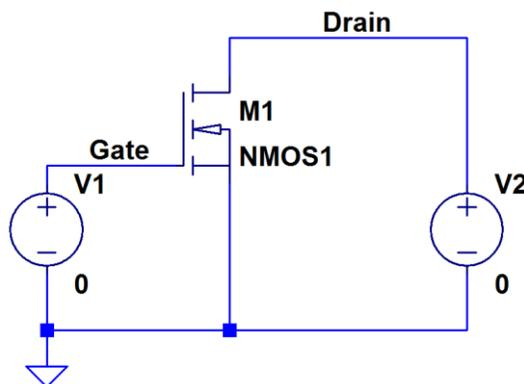

Fig. 1. NMOS transistor CS characteristics test circuit.
Measured MOSFET common-source (CS) characteristics are obtained from a circuit like the one in Fig. 1. Simulating the circuit will show the CS characteristics for a MOSFET model. To plot each curve, the gate-to-source voltage  $V_{GS}$  is set to a given value and the drain-to-source voltage  $V_{DS}$  is swept across the desired range.
a. Create an LTspice schematic of the circuit in Fig. 1.